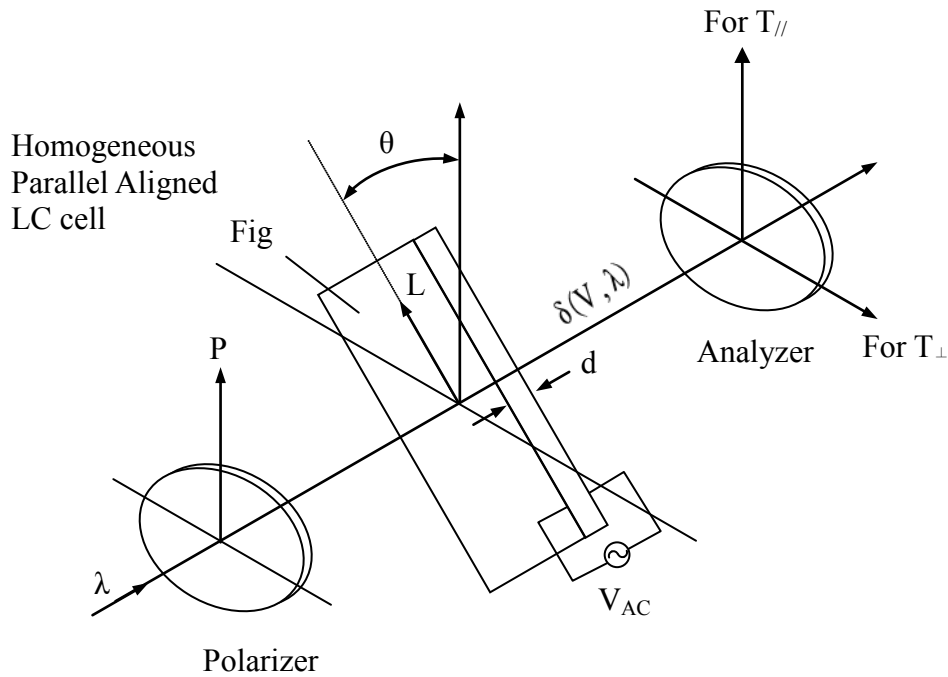

Fig. 11 Schematic diagram of experimental setup
On the other hand, if a linearly polarized light is normally incident onto a parallel aligned cell but with its polarization making $\theta = 45^\circ$ relative to the direction of the aligned LC directors (Fig. 11), then phase retardation occurs due to the different propagating speed of the extraordinary and ordinary rays in the LC medium. In this $\theta = 45^\circ$ configuration, when the two polarizers are parallel, the normalized transmission of a parallel aligned LC cell is given by
2. Set up $\theta = 45^\circ$ configuration at $V = 0$ as shown in Fig. 11. Let the analyzer's transmission axis perpendicular to that of the polarizer, then rotate the parallel-aligned LC cell until the intensity of the transmitted light reaches the maximum value ($T_{\perp}$). This procedure establishes the $\theta = 45^\circ$ configuration. Take down $T_{\perp}$ value, then, measure the intensity of the transmitted light ($T_{\parallel}$) of the same LC cell at the analyzer's transmission axis parallel to that of the polarizer (also at $V = 0$).